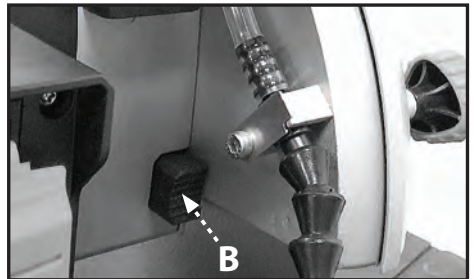
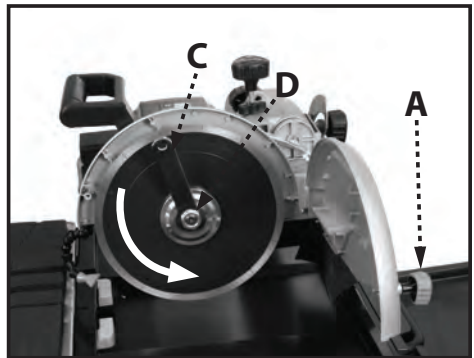

FIGURE 26
FIGURE 27
1. Loosen the blade cover lock knob (A, Fig. 27).
2. Swing the blade cover (6) open
4. Depress the blade spindle lock (B, Fig. 26) and use the blade wrench (C, Fig. 27) to loosen the arbor lock nut (D, Fig. 27)
7. Place the new blade on the arbor so that the arrow on the blade is pointing in the same direction as the arrow on the blade cover. (See Figure 27)